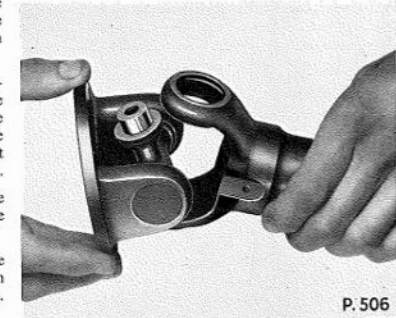

Fig. D.18. Removing the trunnion cross together with the flange yoke from the sleeve yoke
5. The trunnion cross together with the flange yoke may then be tilted over at an angle and removed from the propeller shaft or sliding sleeve yoke (see Fig. D.18).